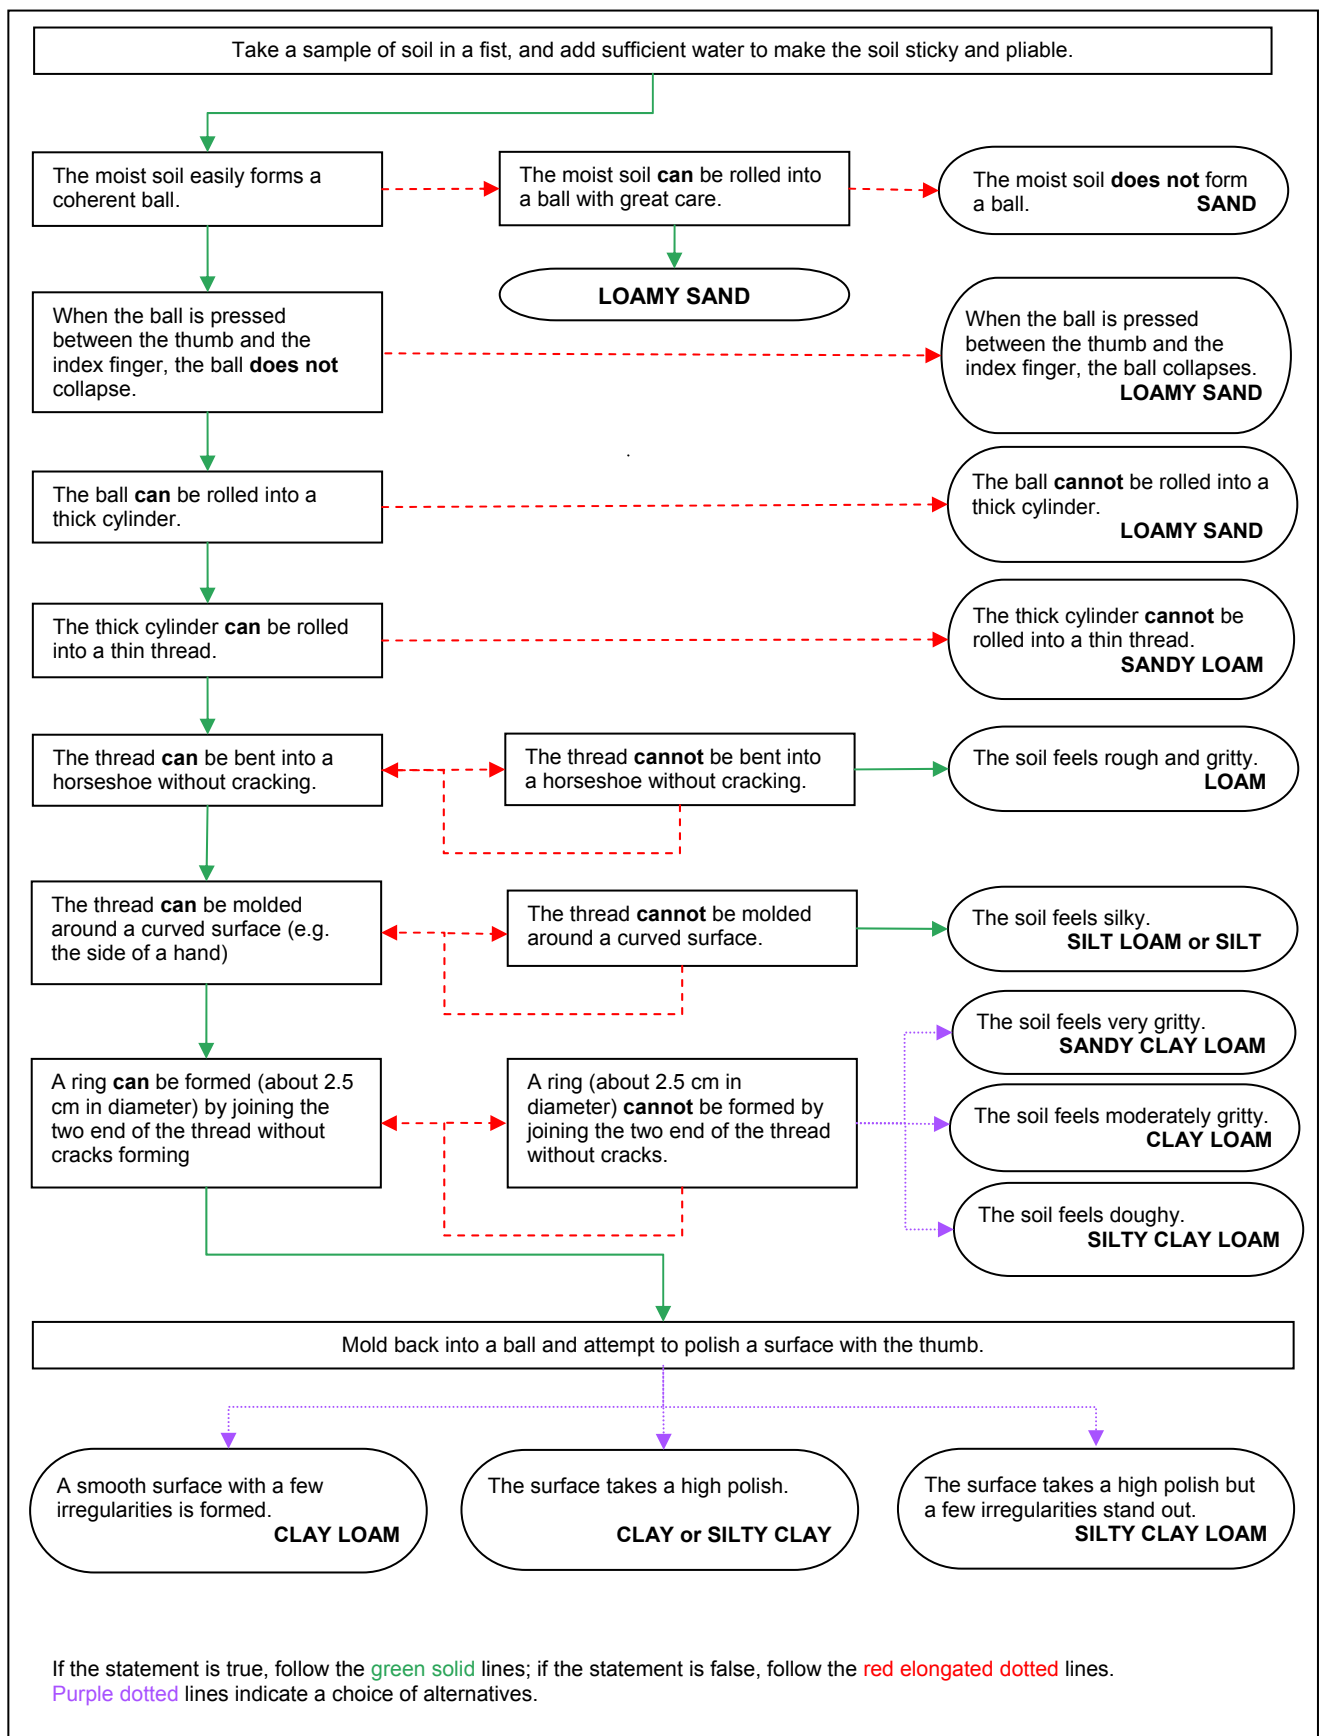

Figure 5.4 Soil Texturing Flow Chart
The hand-feel method can take years of practice. By using the flow chart (Figure 5.4), it is possible to determine the soil texture.
3. Determine texture by rubbing soil paste between index finger and thumb, and by following the steps in Figure 5.4.